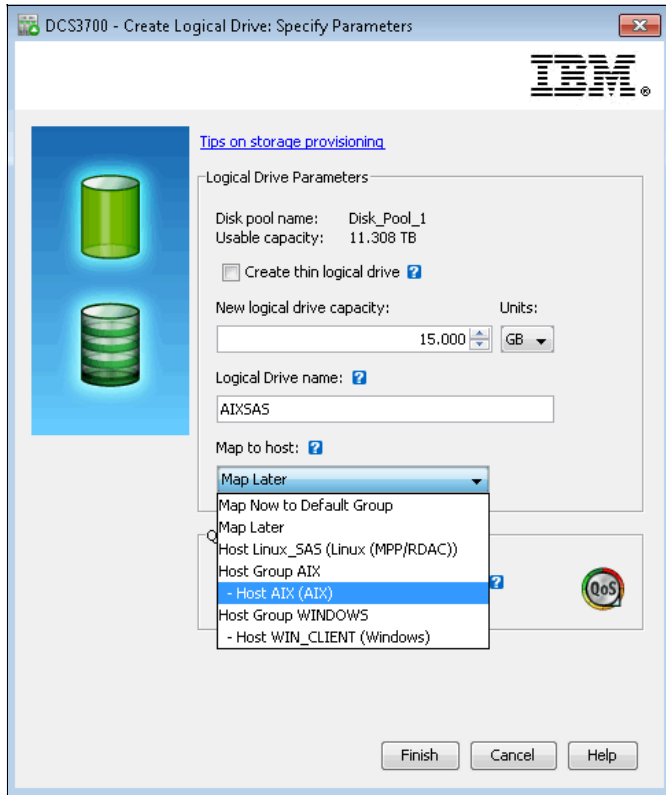

Figure 19-16 Creating and mapping LUN
8. Create a logical drive LUN and map it to your AIX host, as shown in Figure 19-16 on page 577. LUN creation is described in Chapter 8, “Administration: Storage & Copy Services tab” on page 225.